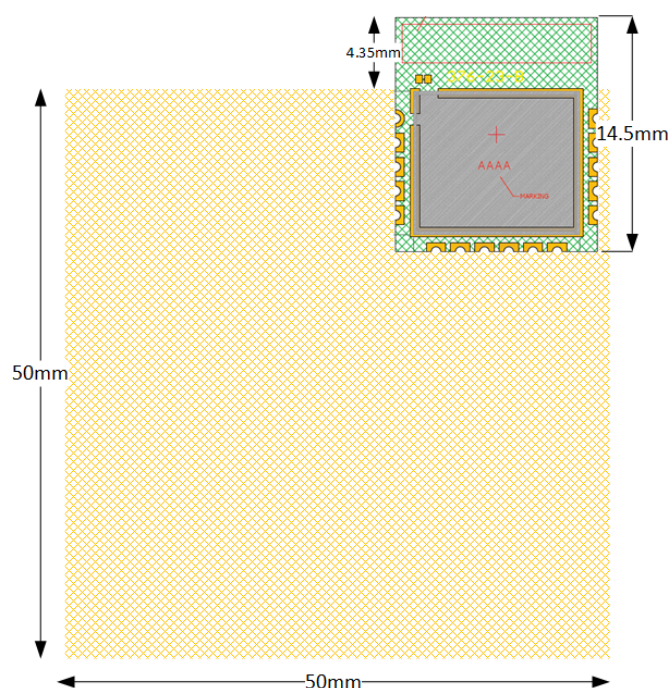

Figure 12: DA14535 TINY™ Module Evaluation Board
- The SPI Bus of DA14535 is used for the communication of the SoC with the NOR Flash at boot time. Three of the four signals are not driven to external module pins. For this reason, a sensor that utilizes the SPI bus must be assigned (by software) to the module pins to communicate with after the boot is completed and when NOR Flash is no longer in use. An example is given in Figure 12.
The actual TINY™ module evaluation board layout that has been used to conduct measurements is shown in Figure 12.